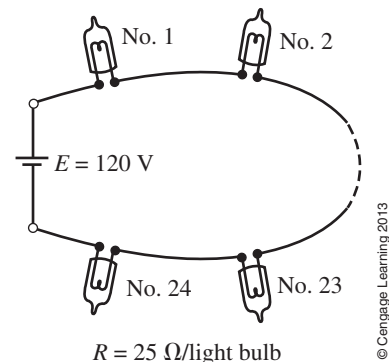

FIGURE 5–71
29. A string of 24 series light bulbs is connected to a 120-V supply as shown in Figure 5–71.